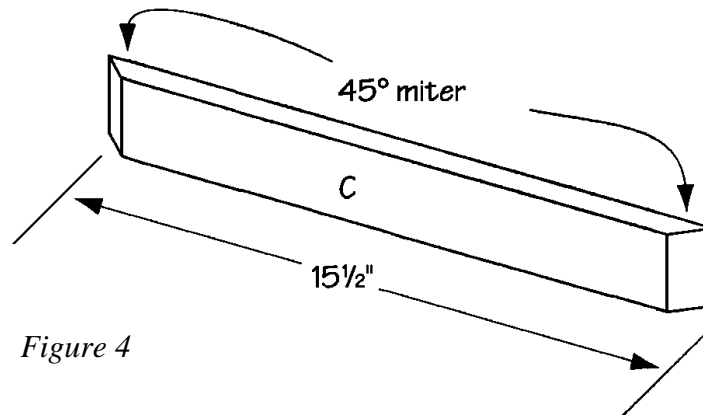

Figure 4
2. Miter both ends of the front rail (C) at opposing 45-degree angles, as shown in Figure 4.